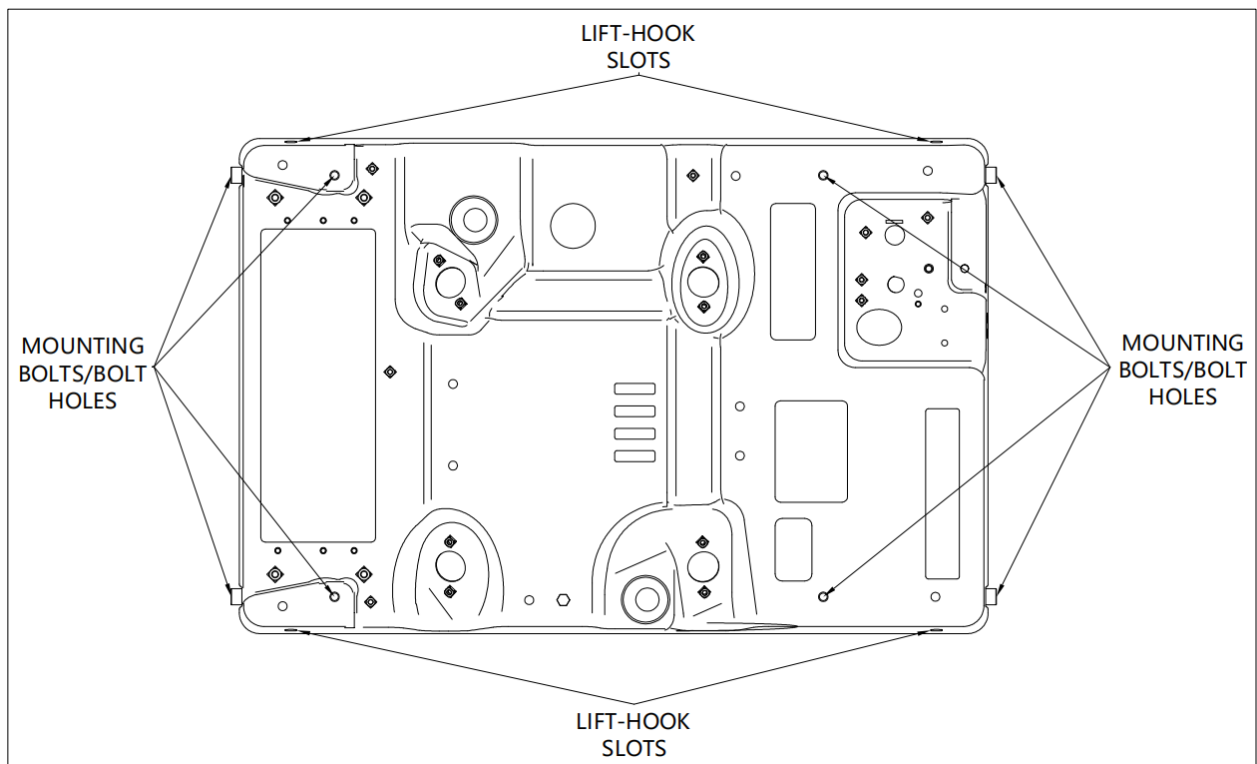

FIGURE 7. GENERATOR SET LIFT-HOOK SLOTS (MOUNTING BOLT HOLES)
- Four M10x1.5, length 20mm bolts into the ends or bottom of the base (Figure 7) are used to secure the generator set to special brackets from the vehicle floor, frame, or to frame members underneath (Figure 7).
- Four M10x1.5, length 20mm bolts into the bottom of the base (Figure 7) are used to secure the generator set to the floor of the compartment.
Figure 7 illustrates the four lift-hook slots for generator set lifting. A lifting rig must spread the hook straps such that they do not crush or bend parts such as the control box, air filter and fuel lines while lifting. See the Specifications section regarding the weight of the generator set and make provisions accordingly for safe handling.